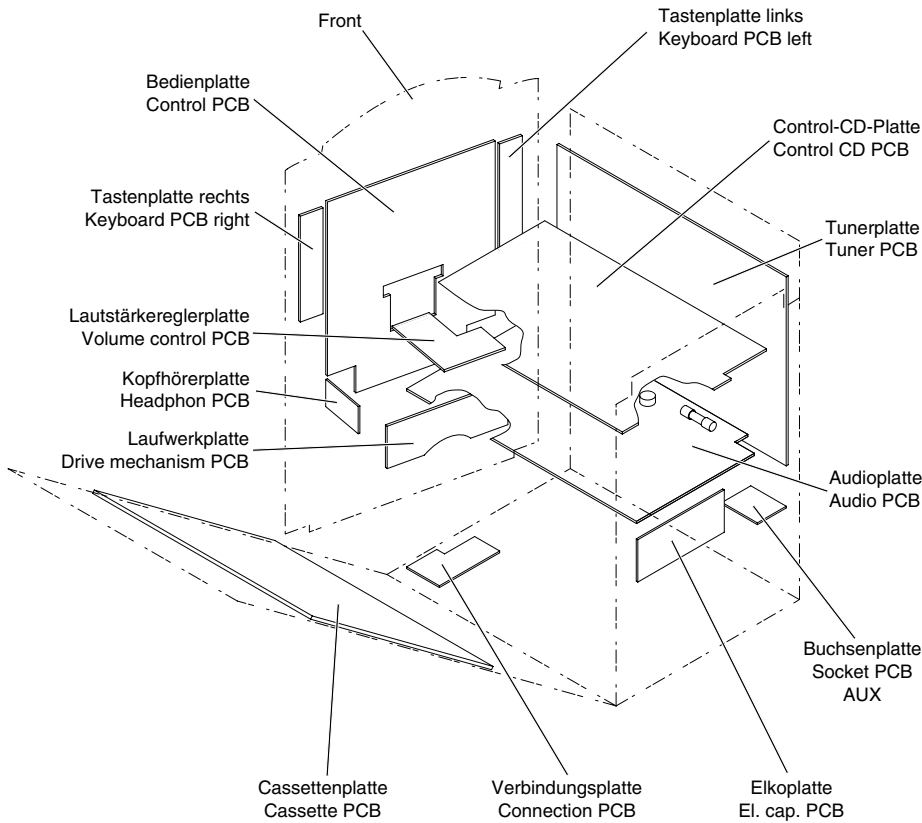

Fig. 1
**1. Removing the Rear Panel, Fig. 1**